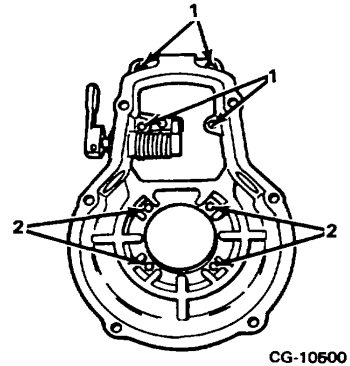

Figure 16.
13. To remove governor housing remove rack link and unscrew eight governor housing to pump housing mounting screws. Remove governor housing and bracket (Figures 16 and 17).